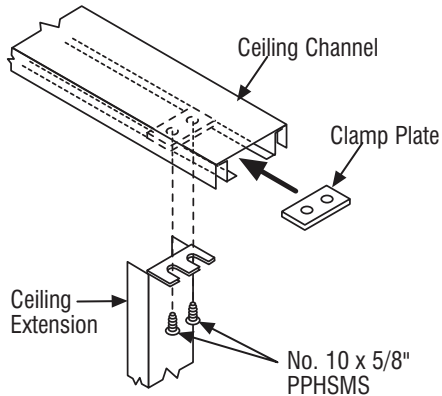

Figure 3-2 Attaching to Ceiling Channels
5. Place the wall frames in position. Engage the ceiling extensions with the ceiling channel to stabilize the wall frames. See Figure 3-2.